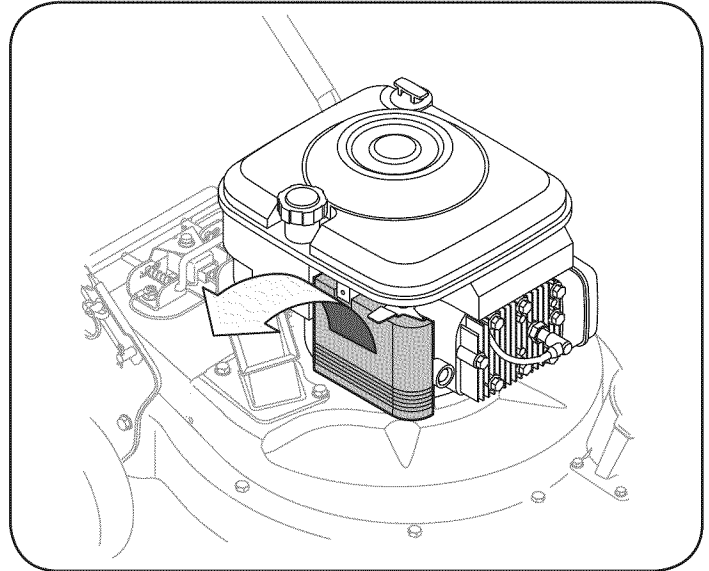

Figure 18
1. Loosen the fastener that holds the cover and tilt plastic housing cover on side of engine down. See Figure 18.